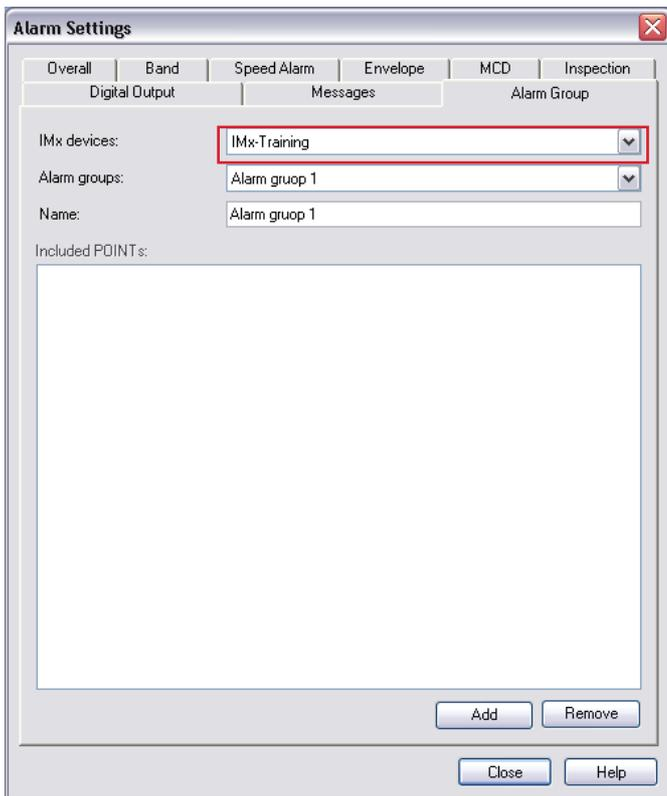

Fig. 2. Alarm Settings' Alarm Group tab.
- Select the **Alarm Group** tab (→ fig. 2).